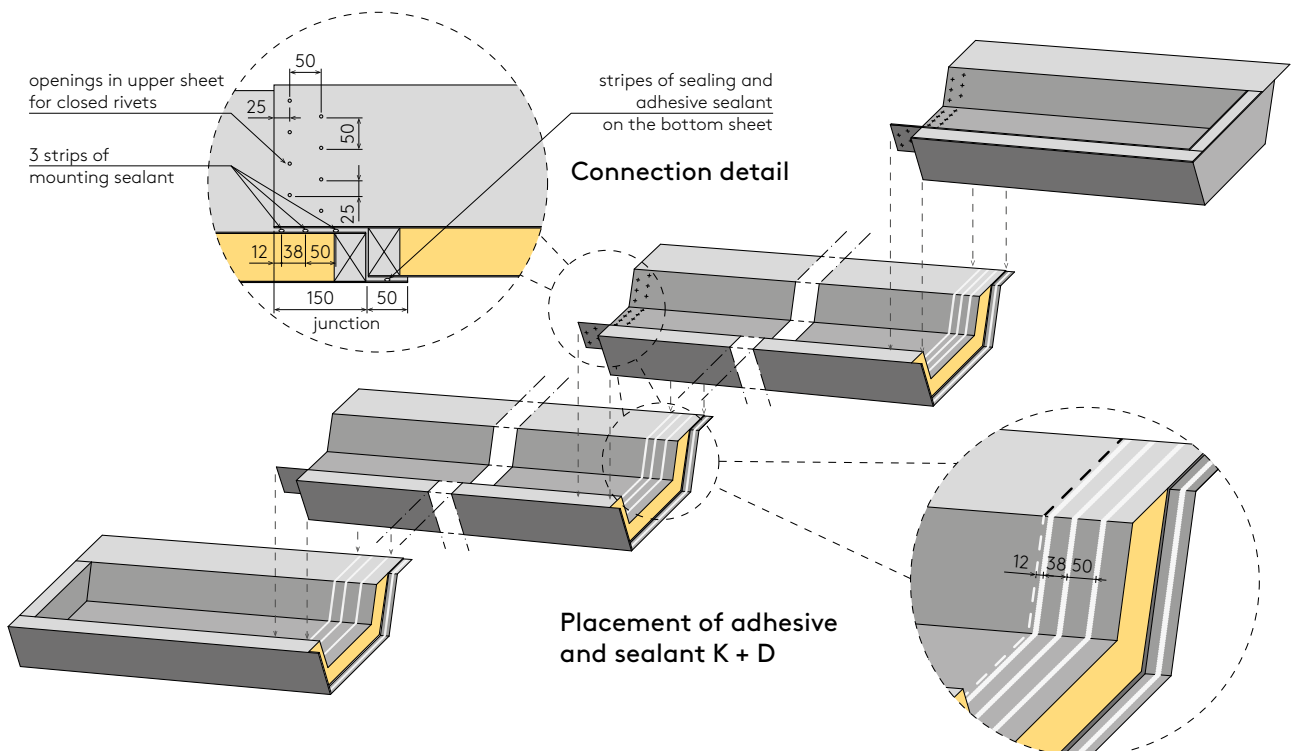

Fig. 5.4.2: installation scheme for insulated gutter with PES or SPECTRUM coating
- 9) Finally, cut the holes for the bottom downpipes of the gutter. Before fixing the downpipe to the bottom of the gutter using closed rivets it is necessary to drill holes for rivets at a spacing of approx. 25 mm, and apply the sealing flange to the socket flange * (see Fig. 5.4.2).